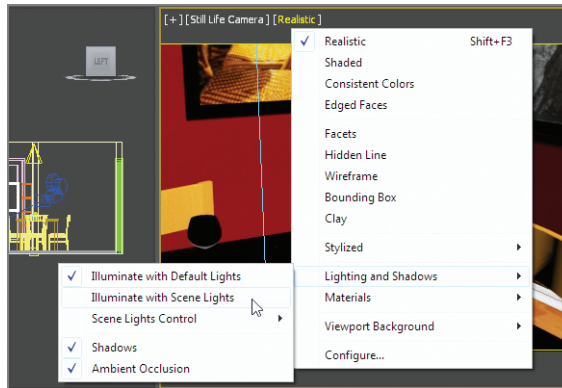

FIGURE 14.12 The Shading Viewport Label menu
9. Click the Shading Viewport Label menu again, go down to Lighting And Shadows, and choose Illuminate With Scene Lights, as shown in Figure 14.12.